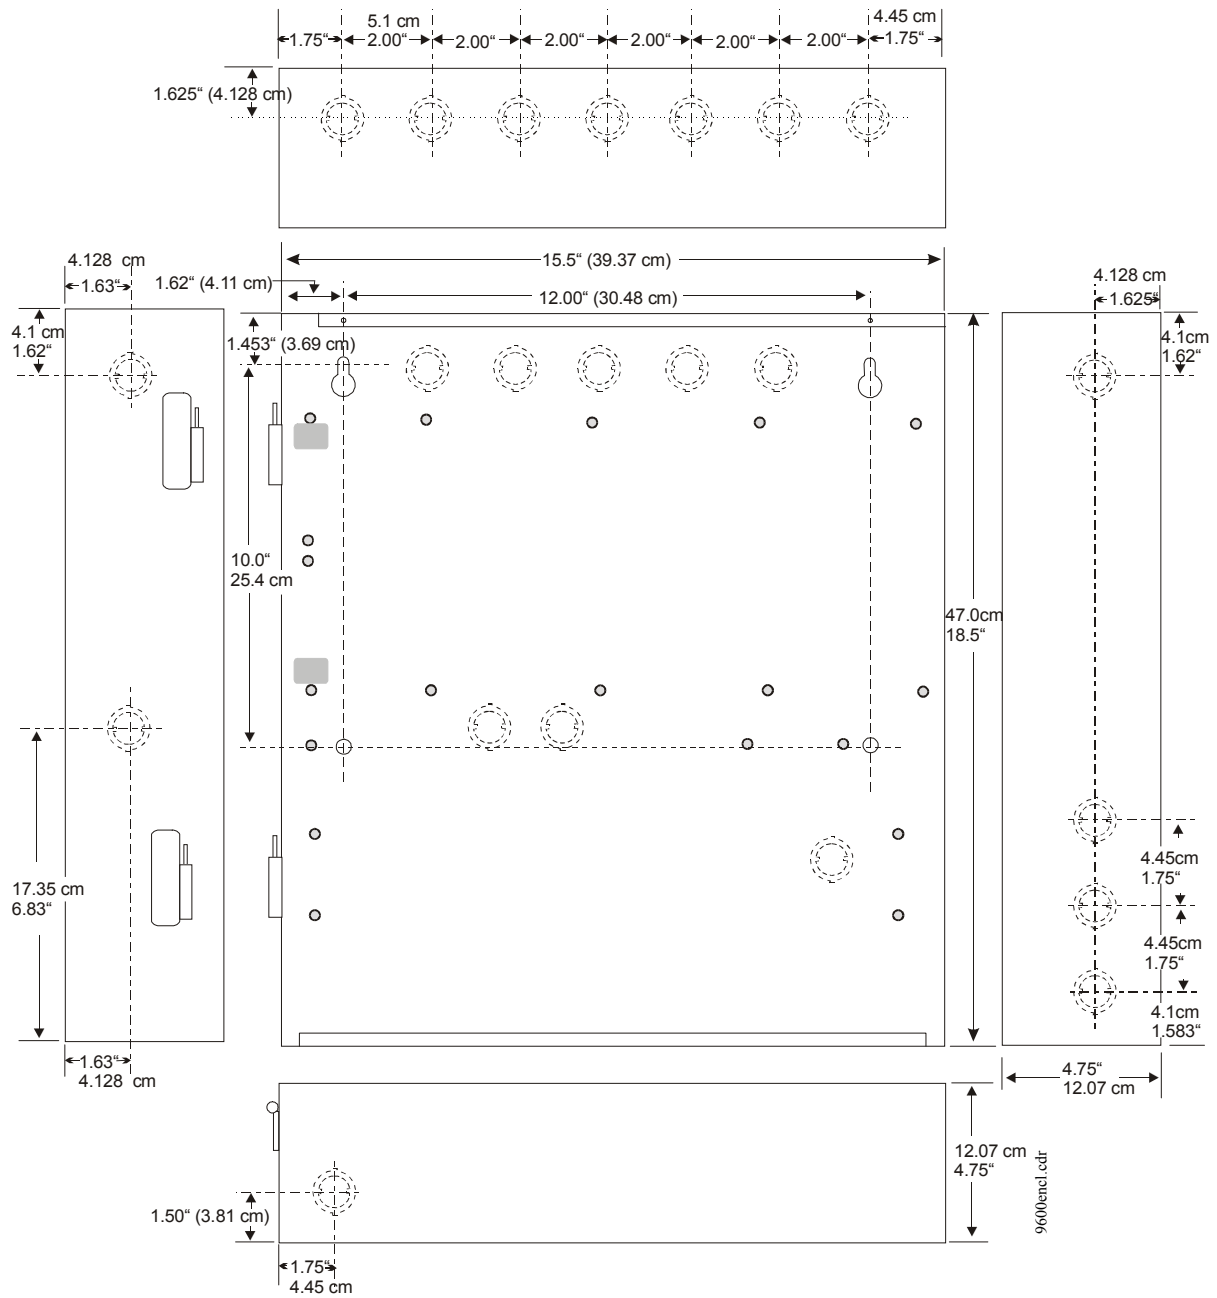

Figure 2.3 MS-9200UD Cabinet Mounting
- ✓ Mark and predrill holes in the wall for the top two keyhole mounting bolts using the dimensions illustrated in Figure 2.3 on page 29